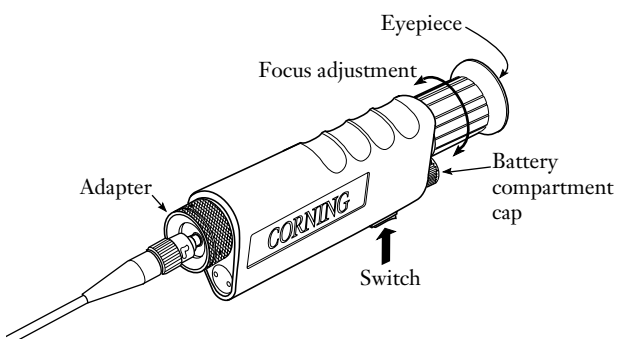

Figure 11
- a) Insert the connector ferrule into the adapter receptacle at the end of the microscope, applying gentle pressure until the ferrule stops (Figure 11).